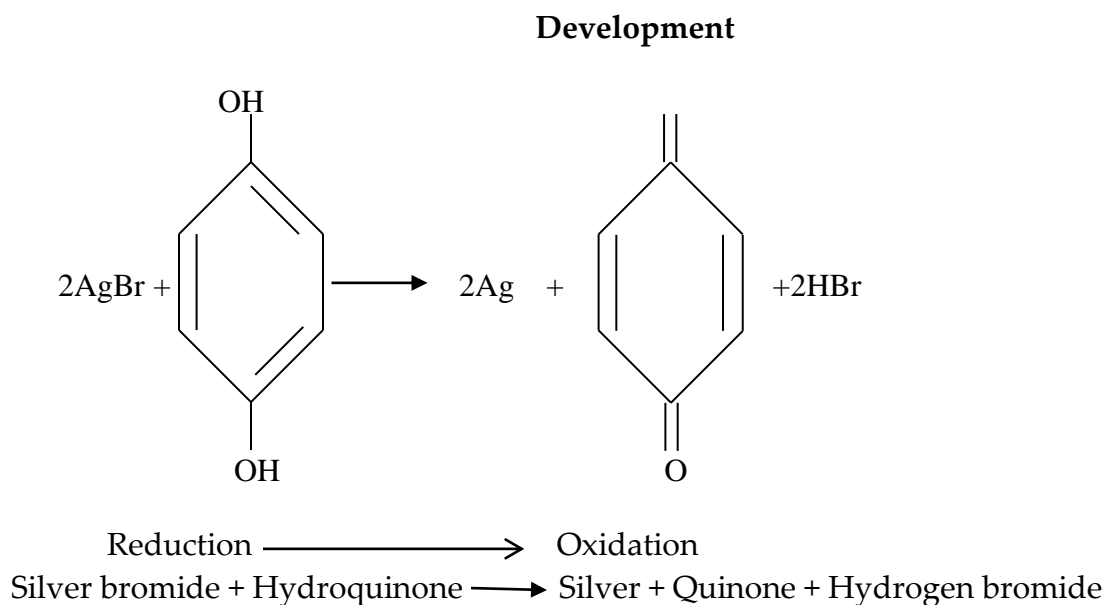

Figure 2: The chemical action of developer on silver bromide (Simplified)
The chemical must be able to precipitate metallic silver from the silver salts of bromide, chloride and iodide or combinations of these salts (figure 2).
The most common silver halide in x-ray emulsions is silver bromide (AgBr). This is normally mixed with a small proportion of silver iodide (AgI) to produce an emulsion with the desired characteristics. The ratio is of the order of 96% AgBr to 4% AgI. Figure 2 shows the reaction that occurs when AgBr is placed in a developing agent. The developer reduces the AgBr to metallic silver and itself becomes oxidized, therefore developers are reducing agents. It can be seen that the desirable reaction has occurred. However, two by-products have also been formed, both of which adversely affect further development and must be combatted by other agents. The developing agent donates electrons to the AgBr crystal during the reduction process.
1. Normal development action (Figure 2)